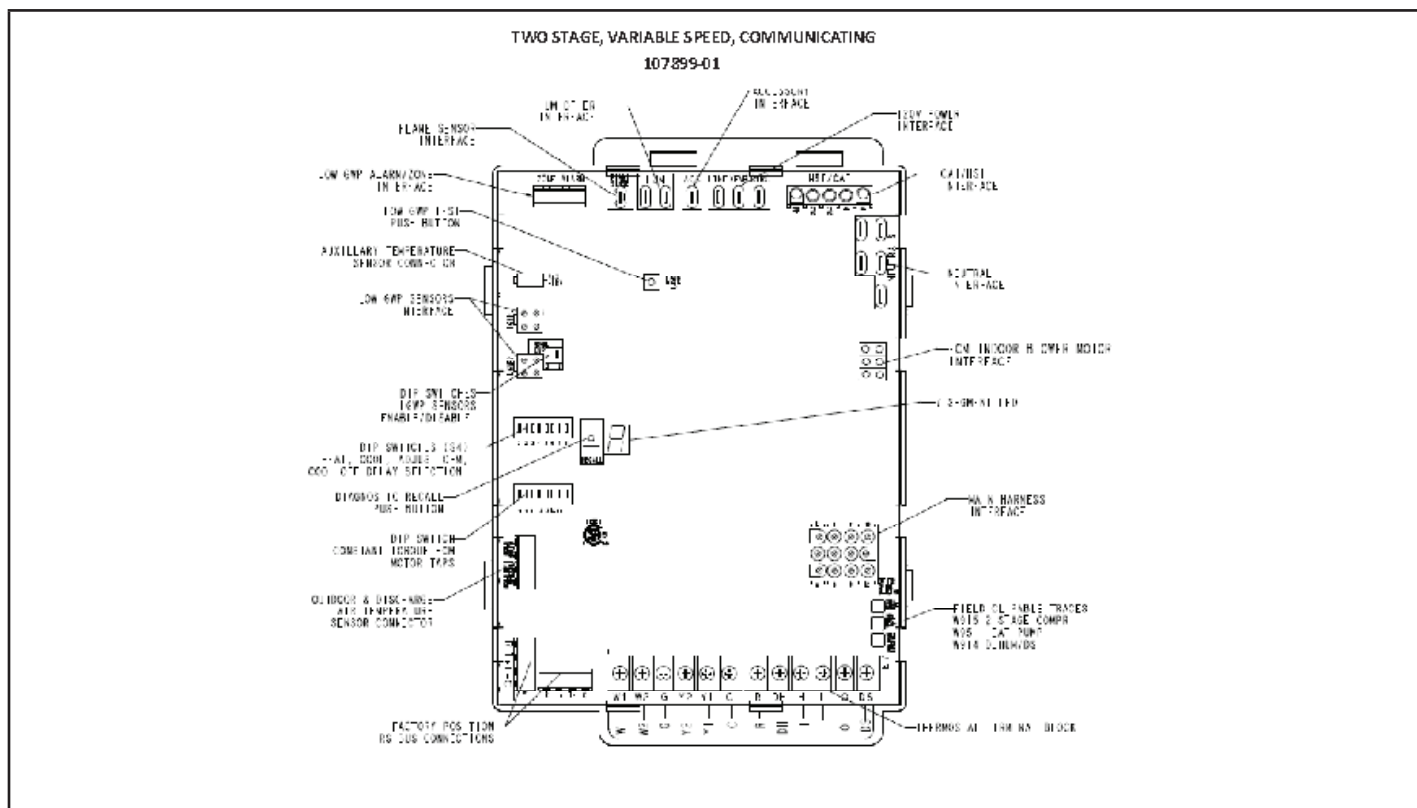

FIGURE 23
- 7 - One line voltage "ACC" 1/4" spade terminal is provided on the furnace integrated control. Any electronic air cleaner or other accessory rated up to one amp can be connected to this terminal with the neutral leg of the circuit being connected to the one of the provided neutral terminals. See FIGURE 23 for control configuration. This terminal is energized when the indoor blower is operating.